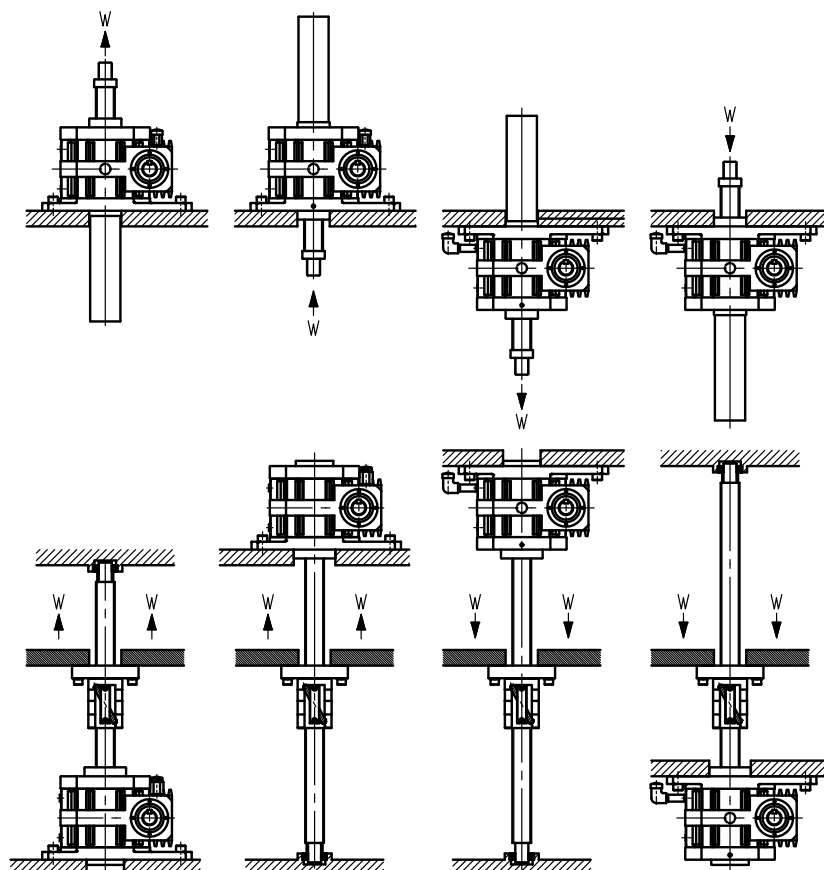

Fig. 3
12. With Flange mount, when the load direction is indicated by arrows in Fig.3, please limit screw compressive load/screw tensile load to 50% of allowable thrust.